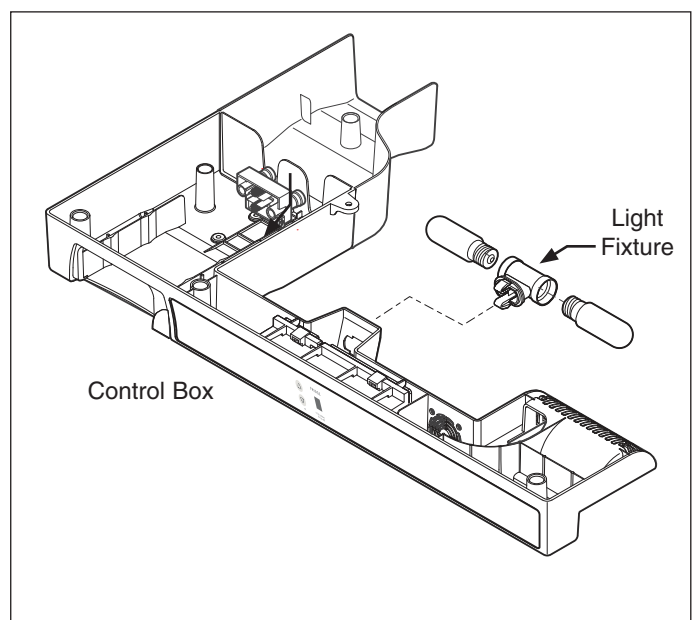

Figure 6-14. Light Fixture Removal
5. Press on the retaining latches securing the light fixture to the control box while pushing the light fixture through the cutout in the control box. (See Figure 6-14)